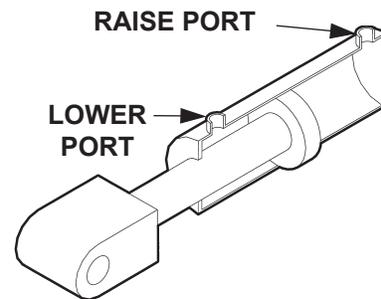

FIG. 52-2
2. Check the hydraulic cylinder. With the platform on the ground, remove the hydraulic line from the lower port of the cylinder (FIG. 52-2). Raise the platform even with the bed. Allow pump motor to run two seconds more while you watch for hydraulic fluid at the lower port. A few drops of hydraulic fluid escaping the port is normal; however, if it streams out, piston seals are worn. Replace seals.